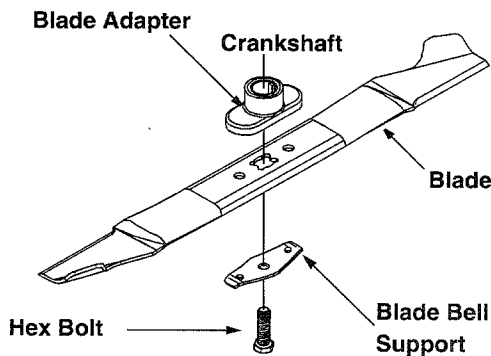

Figure 14
- Remove the bolt and blade bell support which hold the blade and adapter to the engine crankshaft. See Figure 14.
- Install the blade adapter on the crankshaft with the "star" away from the engine. See Figure 14.
- Insert the hex bolt through the blade assembly. Figure 14 shows the correct order of assembly.